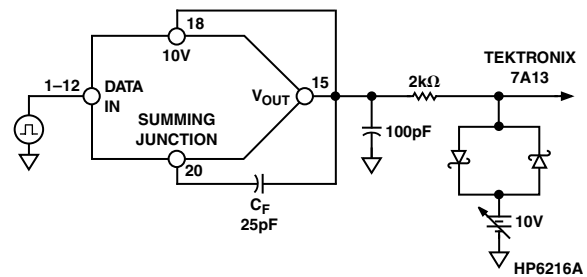

Figure 3a. Voltage Model Settling Time Circuit
- 5CF = 0, see Figure 3a.
Three settling times are specified to 0.01% of full scale range (FSR); two for maximum full scale range changes of 20 V, 10 V and one for a 1 LSB change. The 1 LSB change is measured at the major carry (0 1 1 1 . . . 1 1 to 1 0 0 0 . . . 0 0), the point at which the worst case settling time occurs. The settling time characteristic depends on the compensation capacitor selected, the optimum value is 25 pF as shown in Figure 3a.
Gain and offset drift are minimized in the ADDAC80 because of the thermal tracking of the scaling resistors with other device components. Connections for various output voltage ranges are shown in Table III. Settling time is specified for a full-scale range change: 4  $\mu$ s for a 10 k $\Omega$  feedback resistor; 3  $\mu$ s for a 5 k $\Omega$  feedback resistor when using the compensation capacitor shown in Figure 3a.